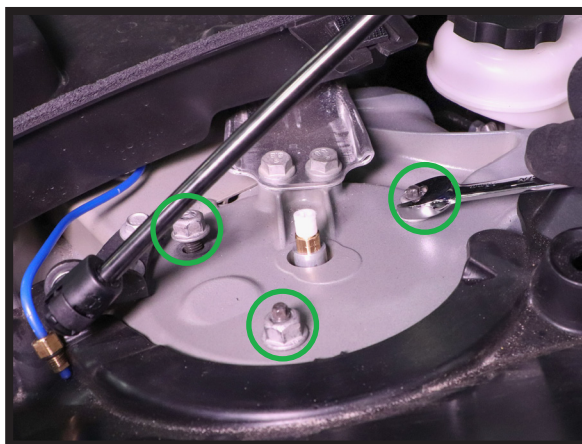

FIGURE 19
4. REINSTALL THE THREE (3) TOP MOUNT NUTS. TIGHTEN TO MANUFACTURER'S SPECIFICATIONS. (FIGURE 19)